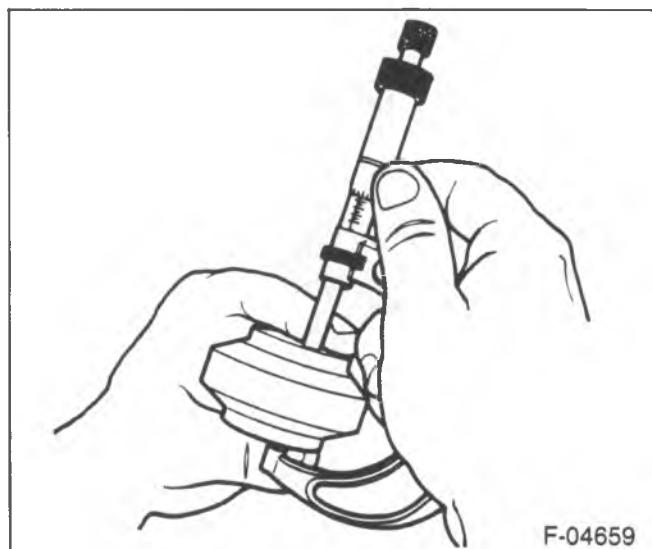

Figure 17—Measuring the Reaction Block
- Measure the thickness of the original reaction blocks together (figure 17).